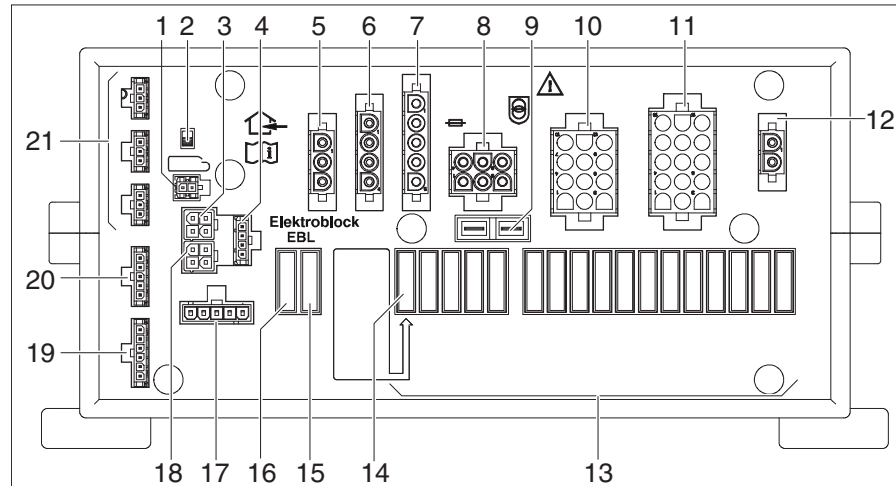

Fig. 265 Transformer/rectifier (EBL 402/403)
Location The transformer/rectifier EBL 402/403 (Fig. 265) is situated on the right in the rear garage.
- ▷ The battery cut-off switch (Fig. 265,2) disconnects all the appliances that are connected to the transformer/rectifier from the 12 V network.
- Turn the battery cut-off switch on and off (Fig. 265,2) three times in a row.